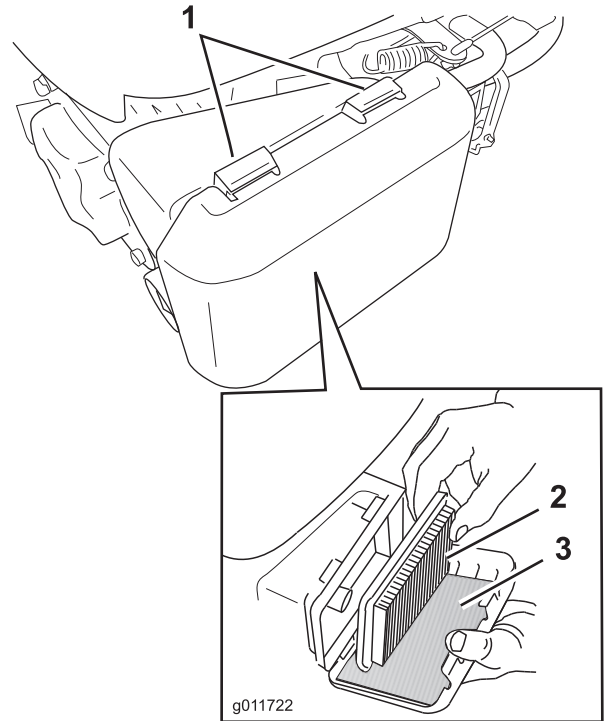

Figure 20
1. Press down on the latch tabs on top of the air cleaner cover (Figure 20).
3. Remove the paper air filter and the foam pre-filter (Figure 20).